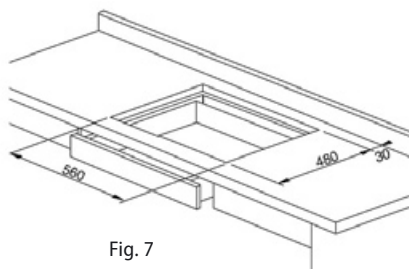
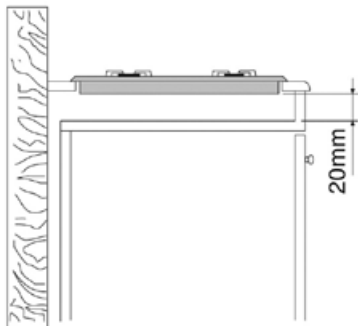
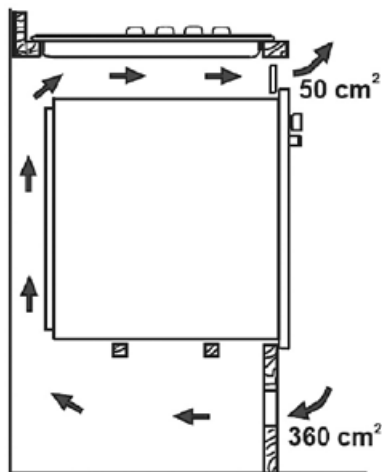

Fig. 7
Fig. 8a
Fig. 10a
4. Measures of the desired hole in the worktop are on Fig. 7. Allow side gaps of min. 100 mm from the adjacent objects and cabinets, from non-flammable materials and walls leave min. 50 mm (Fig. 8a, 8b). Allow a rear side gap of minimum of 55 mm.
7. If no oven is installed under the appliance, allow a gap of a minimum of 20 mm below it (Fig. 8a). If an oven is installed underneath, for effective air circulation the unit must be installed according to the dimensions on Fig. 10a or 10b.